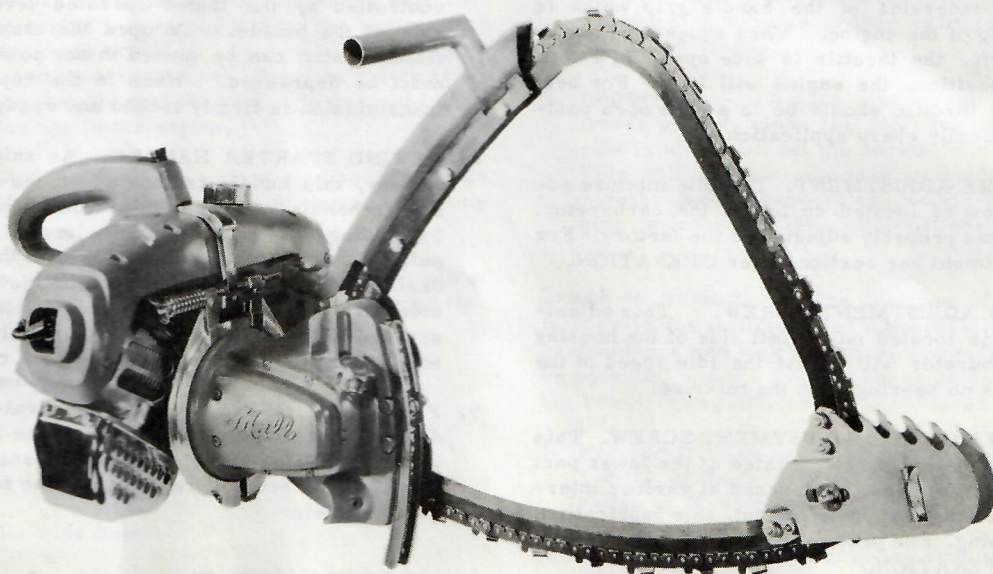

FIG. 2
1. Remove the 42488 Screw and 118303 Nut located at the bottom of the 41155 Index clamp ring. (see fig. 2).